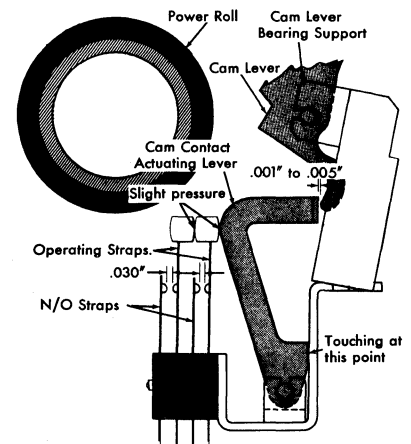

Figure 61. Selector Unit—Contact Type
1. With the selector unit out of the typewriter, form the individual operating straps to obtain a slight pressure on the contact actuating levers (Figure 61). Form the N/O straps for .030" air gap. An improved design of the selector unit permits positioning of the contacts on the selector unit bracket to obtain the conditions listed above and to eliminate most of the forming of the contacts.
2. Remount the selector unit to the cam-lever bearing support and position it front or rear so that the actuating levers clear the tips of the cam levers by .001" to .005" (Figure 61). At the same time, the unit should be posi-